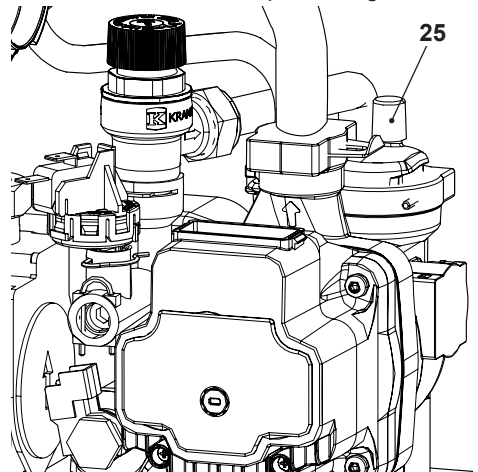

Figure 9.5
- To make draining easier, unscrew the automatic bleed valve cap 25 in Figure 9.5.